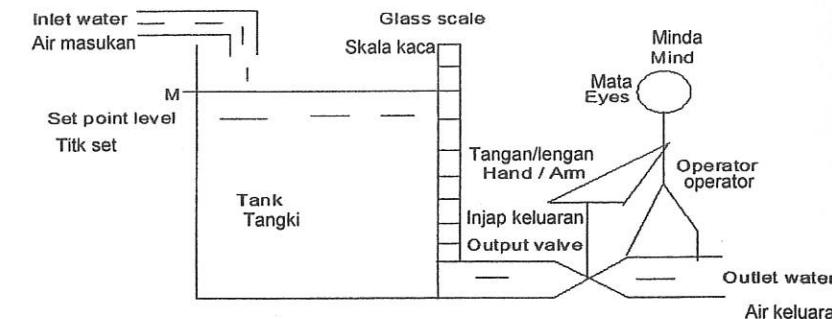

Figure B2b / Rajah B2b
- (c) Interpret the operating principles of process control system in Figure B2b.